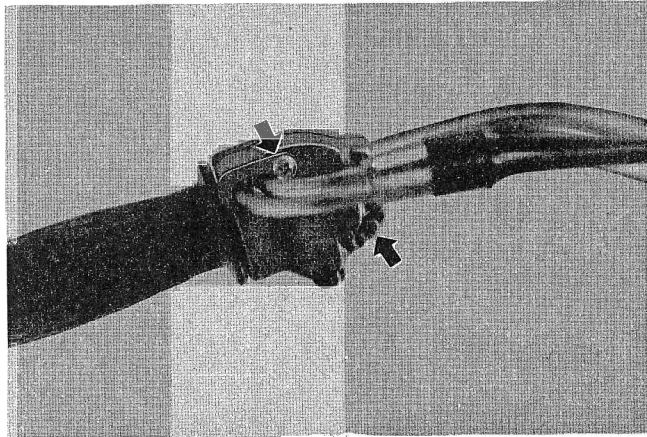

Fig. 26
21. Using the screws removed in procedure 19, assemble the upper and lower halves of the handle lever holder, and secure the assembly to the handle bar. (Fig. 26)